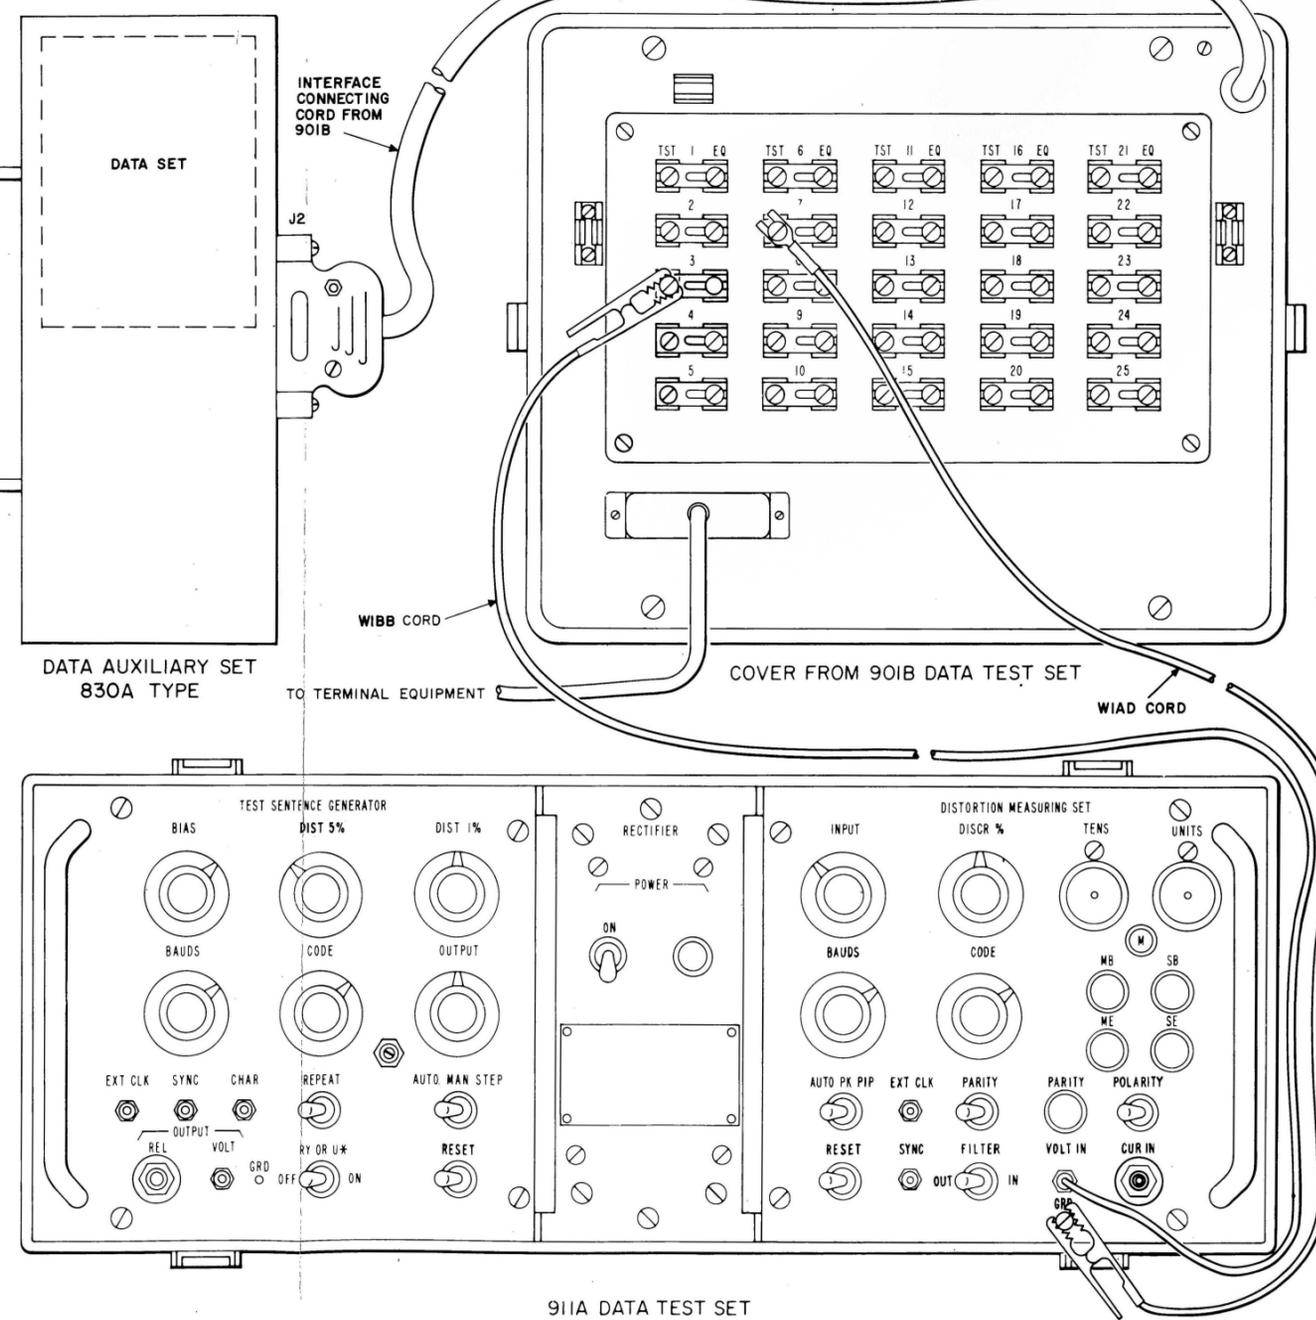

Fig. 2—Distortion Measurement Test Using 911A DTs (EIA Interface)
**5.01** The following test requires the use of two 911A DTSs for checking the sending and receiving capabilities of each station. The test connections required for half duplex testing are shown by Fig. 2 (EIA interface). After testing in one direction, the receiving station is reconnected as the transmitting station and the transmitting station becomes the receiver to check operation in the reverse or opposite direction.
shown by Fig. 2. The test refers to transmitting and receiving stations. When making a full duplex test, disregard the transmitting and receiving designations and perform the following steps.
4	If the data station is arranged for EIA interface (see Fig. 2)— At transmitting station, connect the spade-tip end of W1AD cord to terminal 7 of interface test adapter.